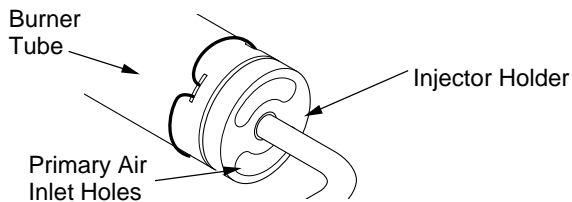

Figure 33 - Injector Holder On Outlet Burner Tube
2. Inspect burners, pilot, and primary air inlet holes on injector holder for dust and dirt (see Figure 33).